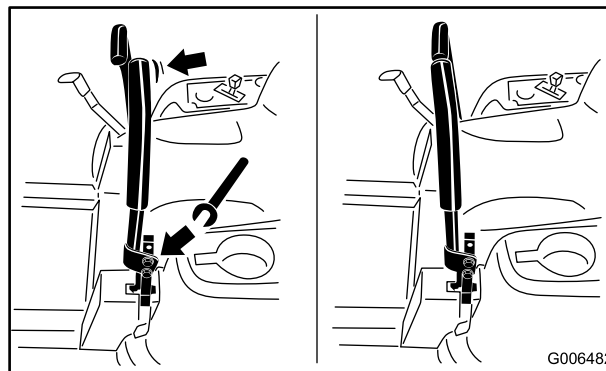

Figure 3
4. Verify the motion control levers are properly aligned (Figure 3). Adjust as necessary. Tighten all fasteners.